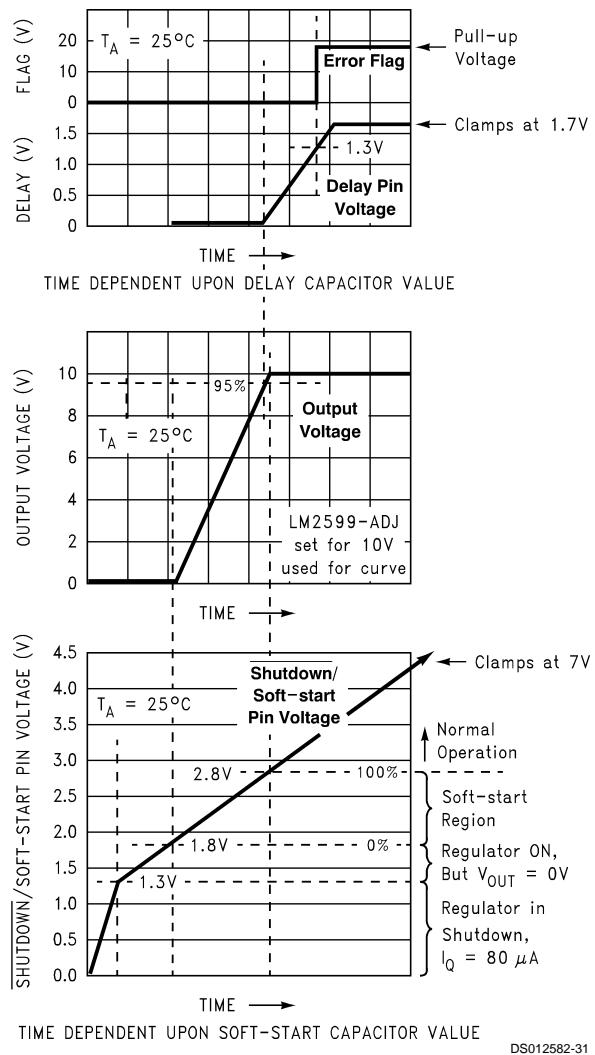
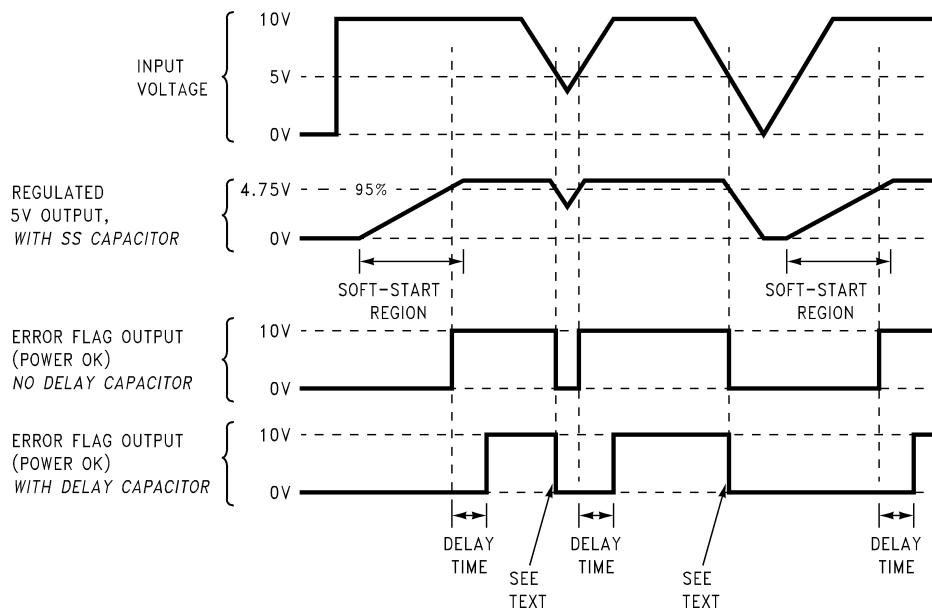

FIGURE 13. Soft-start, Delay, Error, Output
FIGURE 14. Timing Diagram for 5V Output
C_{SS} —A capacitor on this pin provides the regulator with a Soft-start feature (slow start-up). When the DC input voltage is first applied to the regulator, or when the Shutdown /Soft-start pin is allowed to go high, a constant current (approximately $5 \mu A$) begins charging this capacitor). As the capacitor voltage rises, the regulator goes through four operating regions (See the bottom curve in Figure 13).
3. Soft-start Region. When the \overline{SD}/SS pin voltage is between 1.8V and 2.8V (@ $25^\circ C$), the regulator is in a Soft-start condition. The switch (Pin 2) duty cycle initially starts out very low, with narrow pulses and gradually get wider as the capacitor \overline{SD}/SS pin ramps up towards 2.8V. As the duty cycle increases, the output voltage also increases at a controlled ramp up. See the center curve in Figure 13. The input supply current requirement also starts out at a low level for
Note: The lower curve shown in Figure 13 shows the Soft-start region from 0% to 100%. This is not the duty cycle percentage, but the output voltage percentage. Also, the Soft-start voltage range has a negative temperature coefficient associated with it. See the Soft-start curve in the electrical characteristics section.
C_{DELAY} — Provides delay for the error flag output. See the upper curve in Figure 13, and also refer to timing diagrams in Figure 14. A capacitor on this pin provides a time delay between the time the regulated output voltage (when it is increasing in value) reaches 95% of the nominal output voltage, and the time the error flag output goes high. A 3 μ A constant current from the delay pin charges the delay capacitor resulting in a voltage ramp. When this voltage reaches a threshold of approximately 1.3V, the open collector error flag output (or power OK) goes high. This signal can be used to indicate that the regulated output has reached the correct voltage and has stabilized.